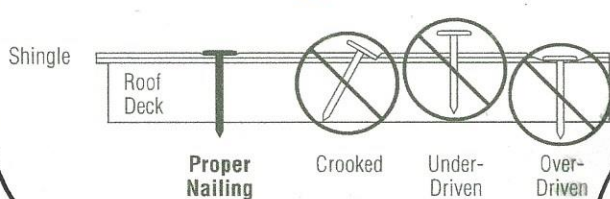

Figure 8-1: Fastening three-tab, strip-type shingles.
- ◆ Be sure fasteners are driven straight, with nail heads flush with the shingle surface and never cutting into the shingle (Figure 8-1).